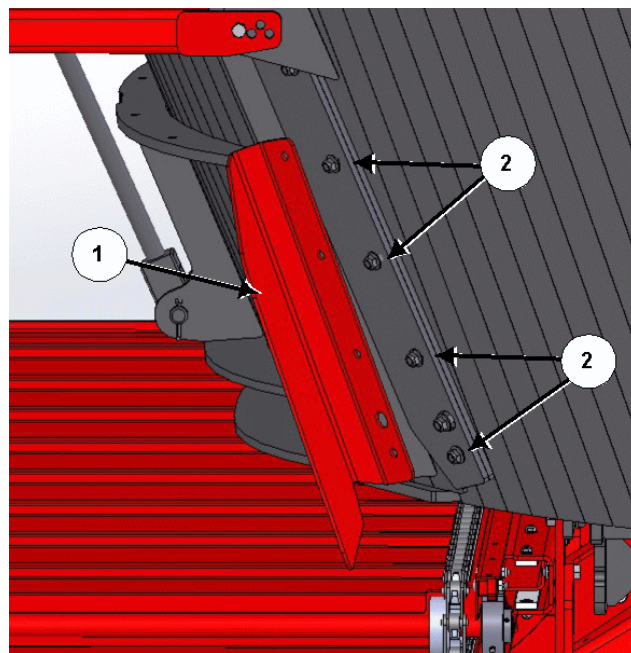

Figure 14: Attach the left side shield
11. Attach the left side shield (1) to the tub, as per *Figure 14*.
- a. Remove the bottom 4 lock nuts (2) on the left tub door slide cap.
- b. Place the side shield (1) over the 4 carriage bolts.
- c. Fasten with the 4 lock nuts (2) removed earlier.